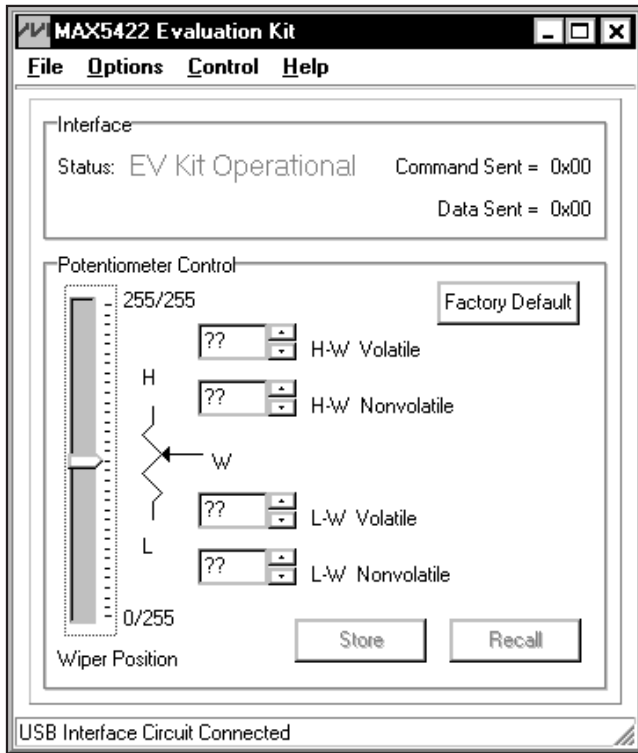
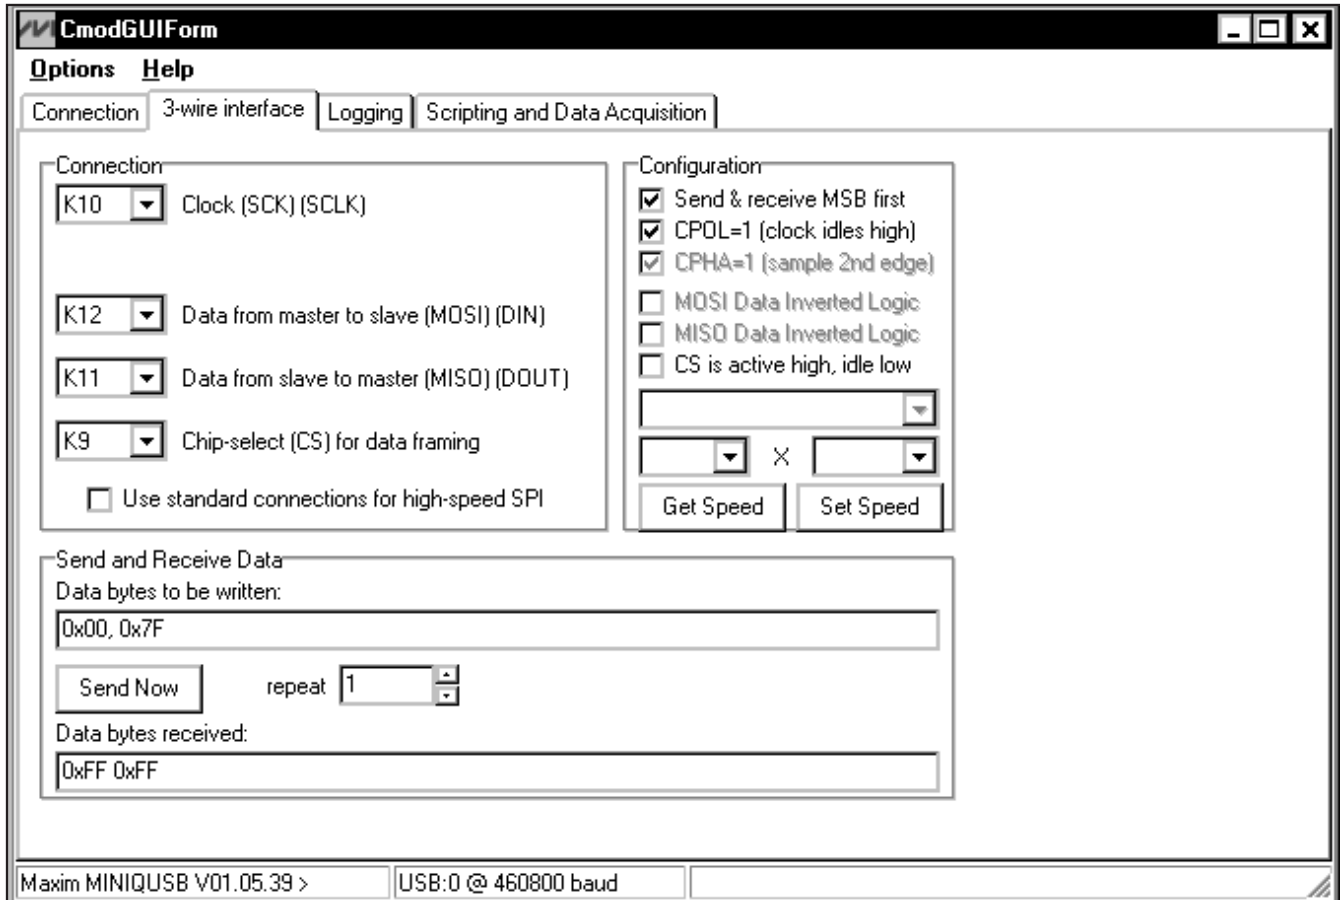

Figure 1. MAX5422 Evaluation Kit Software Main Window
Figure 3. Simple Low-Level 3-Wire Interface
- 8) Observe as the program automatically detects the USB connection and starts the main program. After successful connection, the EV kit software main window appears in the upper-left corner of the window (Figure 1).
The MAX5422 EV kit software GUI shown in Figure 1 is a Windows program that provides a convenient means to control the MAX5422. Use the mouse or press the tab key to navigate through the GUI controls. The correct SPI write operation is generated to update the MAX5422 internal memory registers when any of these controls are executed.
There are two methods for communicating with the MAX5422 EV kit, through the normal user-interface panel (Figure 1) or through the SPI commands available by selecting the **3-Wire Interface** (Figure 3) utility from the main program's **Options | Interface (Advanced Users)** main menu. A window is displayed that allows SPI send/receive data operations.
The **Connection** group box allows the user to define the hardware connections of the interface. For the MAX5422 EV kit, select **K10** from the **Clock (SCK) (SCLK)** drop-down list, **K12** from the **Data from master to slave (MOSI) (DIN)** drop-down list, **K11** from the **Data from slave to master (MISO) (DOUT)** drop-down list, **K9** from the **Chip-select (CS) for data framing** drop-down list, and uncheck the **Use standard connections for high-speed SPI** checkbox (see Figure 3).
The **Configuration** group box allows the user to configure the logic level and data rate. For the MAX5422 EV kit, check the **Send & Receive MSB first** and the **CPOL=1 (clock idle high)** checkboxes (see Figure 3).
**Note:** The SPI dialog boxes accept numeric data in hexadecimal format. Hexadecimal numbers must be prefixed by \$ or 0x. See Figure 3 for an example of this tool. Figure 3 shows a simple SPI write-byte operation using the included 3-wire interface diagnostics tool. In this example, the software is sending a command 0x00 (write to volatile memory), and a data 0x7F. The data sequence sets the MAX5422 wiper position to 128.